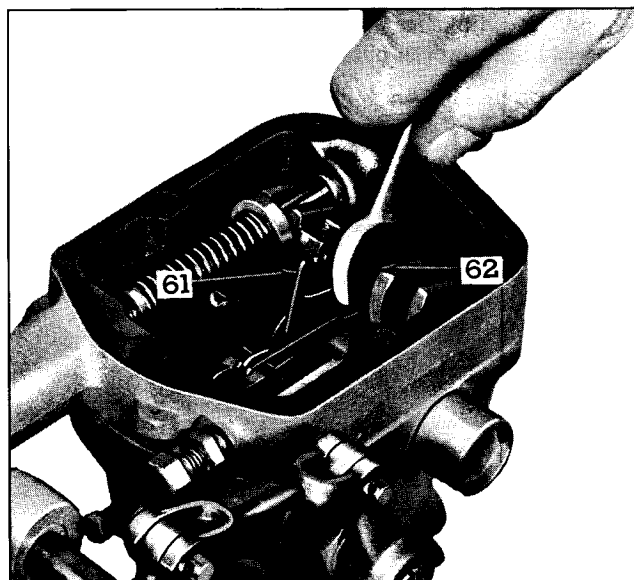

Fig. 4 - Adjusting Speed Droop
4. Refer to Fig. 4 and loosen droop adjusting bolt (62). Move bracket (61) so that bolt is midway between ends of slot in bracket. Tighten bolt.